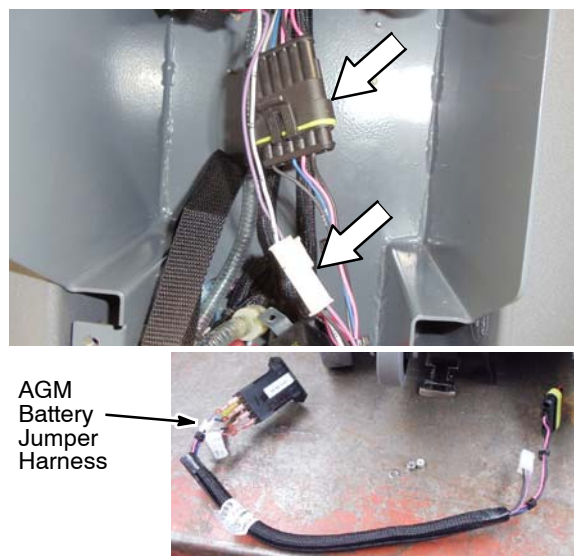

Fig. 4
4. Disconnect the AGM battery jumper harness connectors and remove harness from machine (Figure 4).